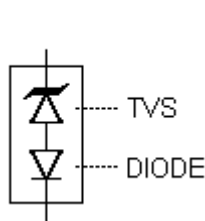
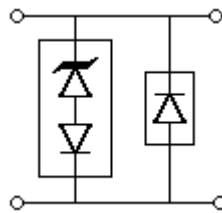

FIGURE 4
FIGURE 5
The HSMBJSAC transient voltage suppressor (TVS) series rated at 500 Watts provides an added rectifier element as shown in Figure 4 to achieve low capacitance in applications for data or signal lines. The low capacitance rating of less than 30 pF may be used for protecting higher frequency applications in inductive switching environments or electrical systems involving secondary lightning effects per IEC61000-4-5 as well as RTCA/DO-160D or ARINC 429 for airborne avionics. If bidirectional protection is needed, two HSMBJSAC devices in anti-parallel configuration are required as shown in Figure 6. With their very fast response time, they also provide ESD and EFT protection per IEC61000-4-2 and IEC61000-4-4 respectively.
* TVS devices are not typically used for dc power dissipation and are instead operated $\leq V_{WM}$ (rated standoff voltage) except for transients that briefly drive the device into avalanche breakdown (V_{BR} to V_C region) of the TVS element. Also see Figures 5 and 6 for further protection details in rated peak pulse power for unidirectional and bidirectional configurations respectively.
The TVS low capacitance device configuration is shown in Figure 4. As a further option for unidirectional applications, an additional low capacitance rectifier diode may be used in parallel in the same polarity direction as the TVS as shown in Figure 5. In applications where random high voltage transients occur, this will prevent reverse transients from damaging the internal low capacitance rectifier diode and also provide a low voltage conducting direction. The added rectifier diode should be of similar low capacitance and also have a higher reverse voltage rating than the TVS clamping voltage V_C . Consult factory for recommended rectifier part number. If using two (2) low capacitance TVS devices in anti-parallel for bidirectional applications, this added protective feature for both directions (including the reverse of each rectifier diode) is also provided. The unidirectional and bidirectional configurations in Figure 5 and 6 will both result in twice the capacitance of Figure 4.